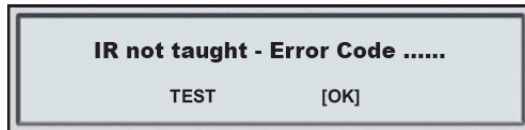

FIG. 28 IR not taught – Error Code #
- **IR not taught – Error Code #** - This means that the command was not received, was incomplete or could not be learned. Pressing **[OK]** returns the user to the same IR command to be re-learned (FIG. 28).